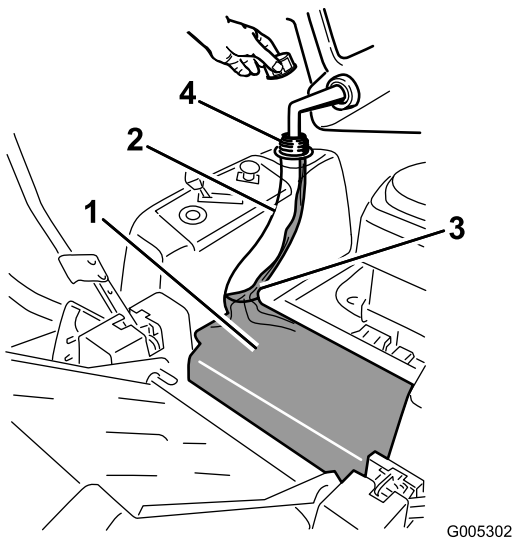

Figure 7
3. Add unleaded regular gasoline until the body of the tank is full but fuel does not fill the neck of the tank (Figure 7). This space in the neck of the tank allows gasoline to expand. Do not fill the fuel tank completely full.